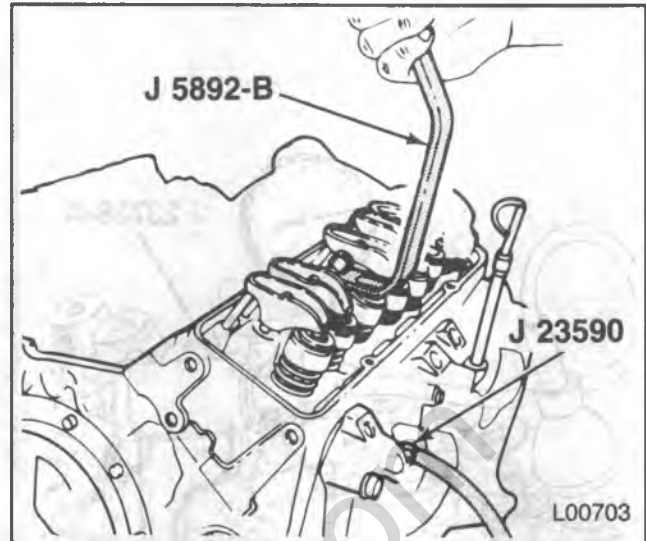
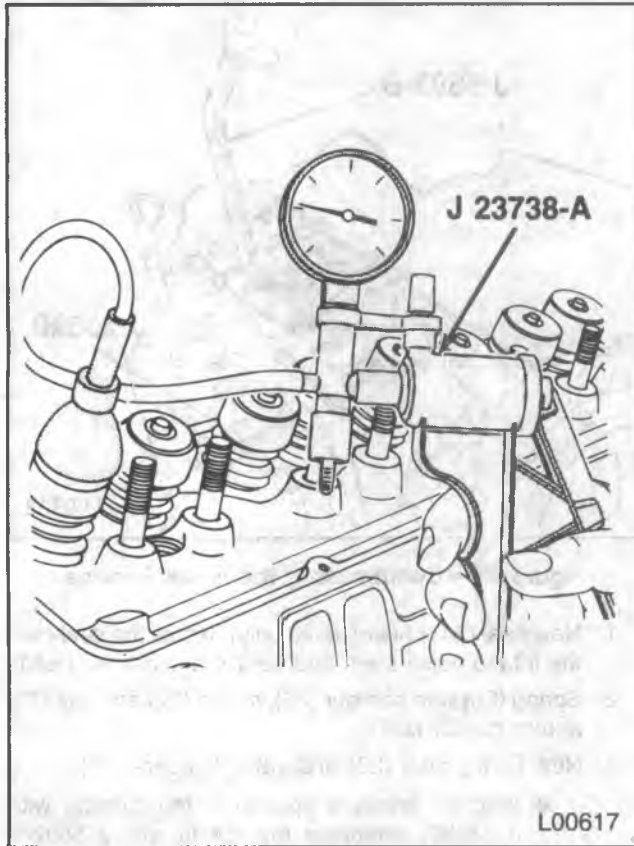

Figure 6 — Compressing the Valve Springs
Figure 7 — Testing the Valve Seals
4. Valve keepers (20).
- Install a rocker arm nut (figure 6).
- Use J 5892-B to compress the valve spring (figure 6).
5. Cap (21) and/or rotator (28), shield (22) and spring (26) with damper (25).
6. O-ring seal (23), and seal (24) (intake valve only).
1. New seal (24) (intake valve only). Install the seal over the intake valve stem and seat it against the head.
2. Spring (26) with damper (25), shield (22) and cap (21) and/or rotator (28).
- With air pressure applied to the cylinder with J 23590, compress the spring with J 5892-B (figure 6).
3. New O-ring seal (23) and valve keepers (20).
- Check each O-ring seal for leakage (figure 7).